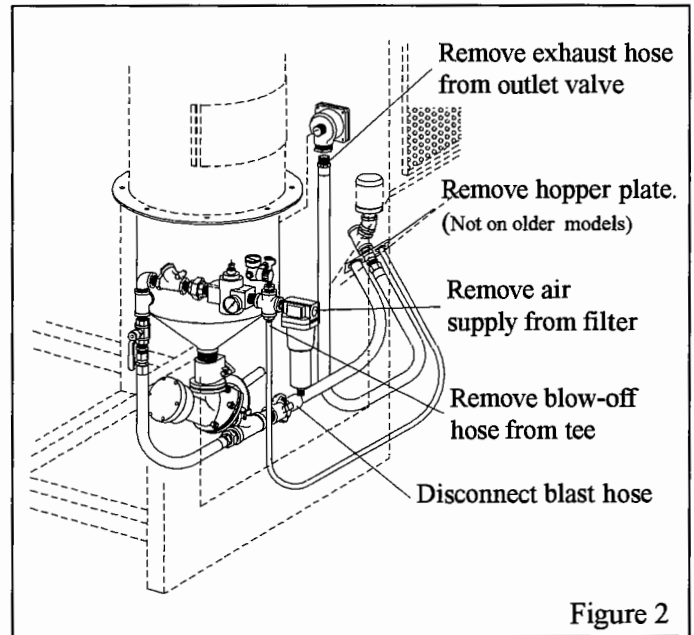

Figure 2
3.1 Remove hoses, as shown in Figure 2.